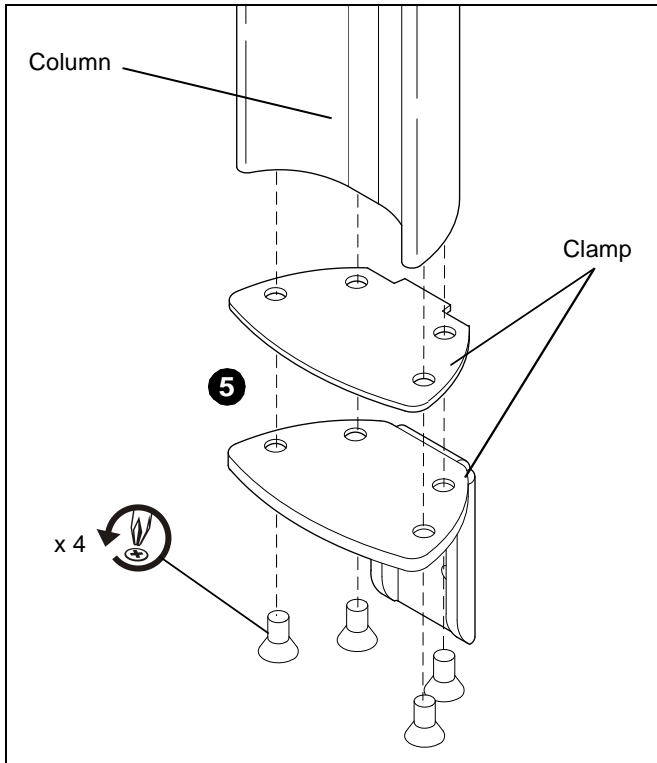

Figure 5
- Remove four Phillips flat head screws securing clamp to column. (See Figure 5)